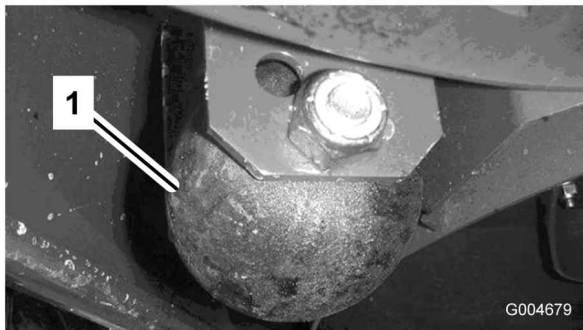

Figure 23
1. Remove the bolt and nut securing the gage wheel to the cutting unit brackets (Figure 23).